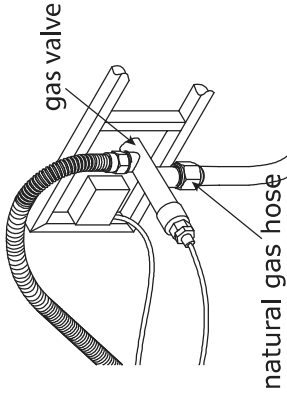
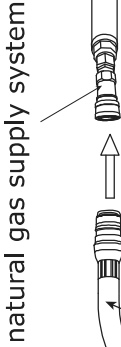

Figure 13
Figure 14
4. Connect the natural gas hose to the gas valve by screwing clockwise tightly (see Figure 13). Plug the natural gas fixture into the natural gas supply system (see Figure 14). The conversion kit should be CSA certified. Below are several suggested CSA certified conversion kits for your reference.